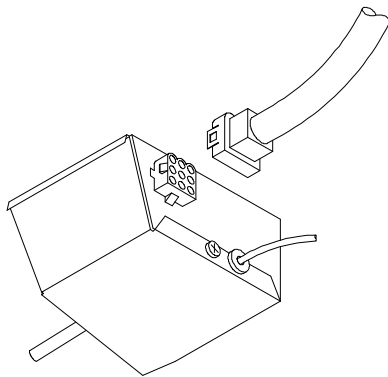

FIGURE 8
- B. Take the roof top air conditioner 115 VAC electrical conduit and plug it into the back of the thermostat control box. Make sure that the "ridged" side of the plug is aligned and matched with the "ridged" side of the thermostat control box connection. **DO NOT USE EXCESSIVE FORCE** and make sure the lock-in tabs are snapped in place. See Figure 8.